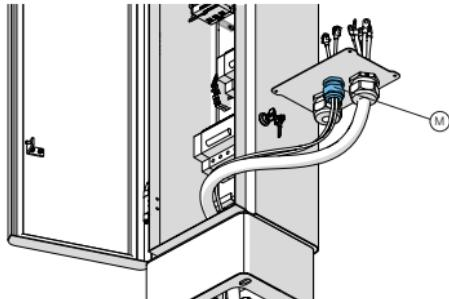

Fig. 3m
- **For Urban T / S**, shown in Figures 3m and 4m, the shielded network cable passes through a hole in the cable entry membrane (M).